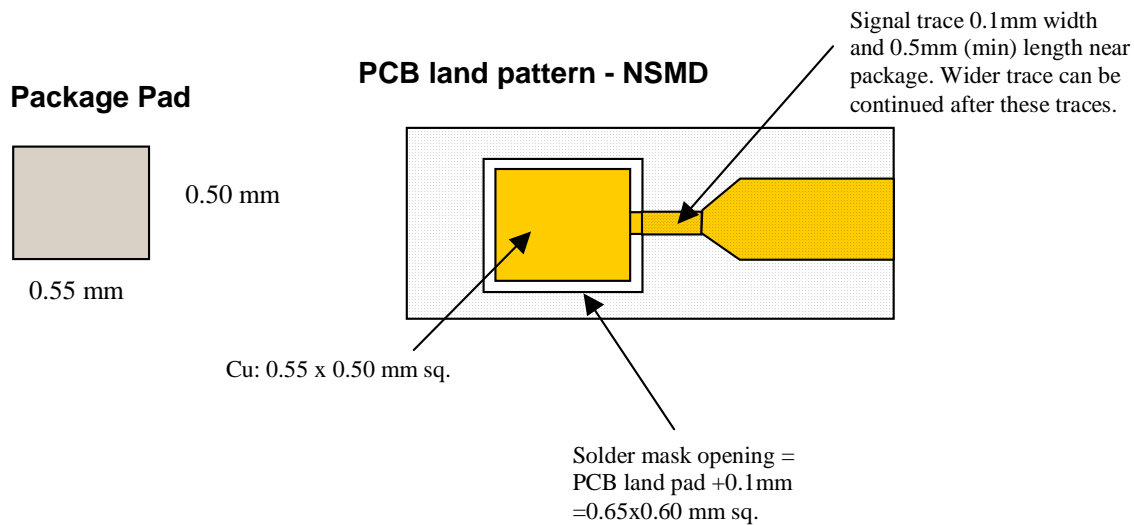

Figure 8. NSMD Solder Mask Design Guidelines
1. NSMD (Non Solder Mask Defined) is shown in Figure 8.
5. Signal trace connected to pads should be as symmetric as possible. Put dummy traces if there is NC pads, in order to have same length of exposed trace for all pads. Signal traces with 0.1mm width and min. 0.5mm length for all PCB land pad near package are recommended as shown in Figure 8 and Figure 9. Wider trace can be continued after the 0.5mm zone.